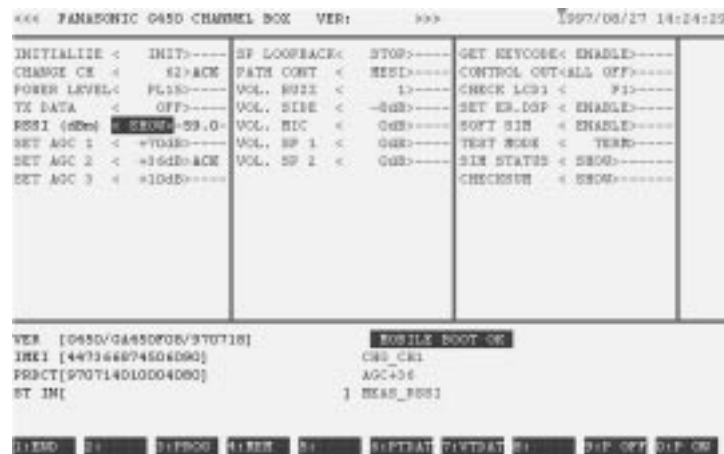

Figure 15: RSSI iel 450-0715
- 5. Figure 15 highlight the RSSI iel and press ENTER.